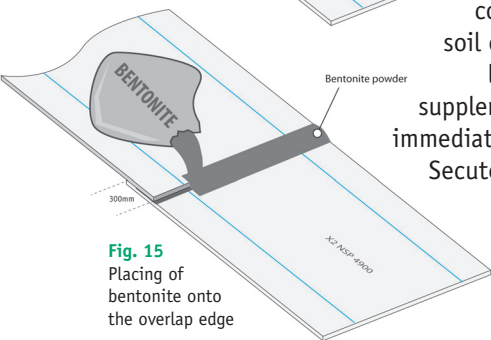

Fig. 15
17.11.4 The edge overlap area is additionally treated with approx. 10 to 20mm thick and 50mm wide supplementary bentonite of approx. 0,4kg/m (fig. 15).